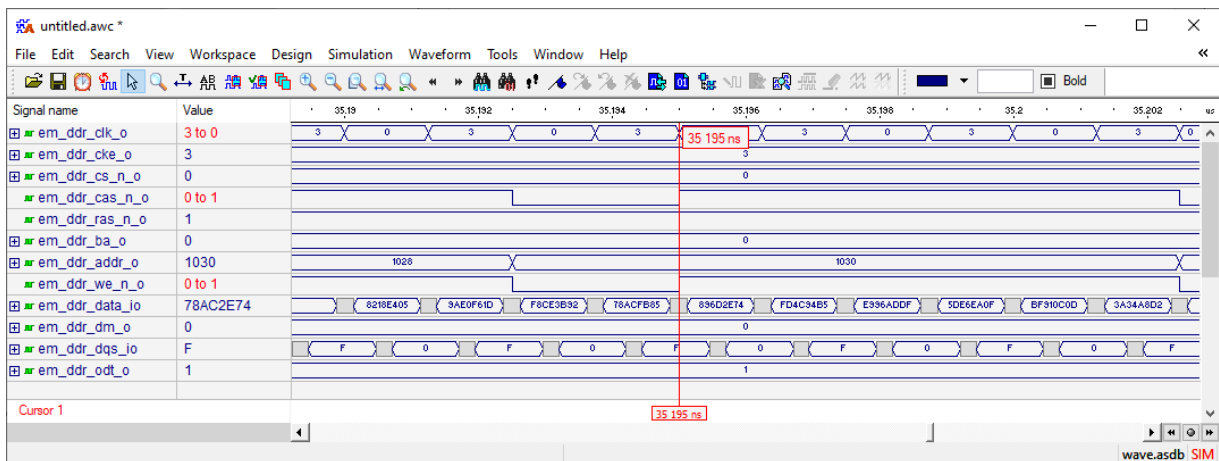

Figure 3.6. Simulation Waveform
- Click **Next**. The **Summary** window is shown. Click **Finish** to run the simulation. The results of the simulation in our example are provided in Figure 3.6.